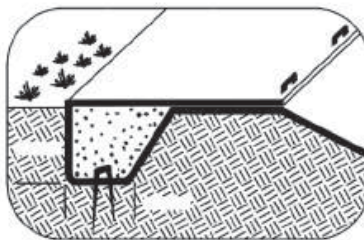

Fig. 7 Terminal anchor trench for slopes and channels
- Step 5:** Anchor, fill and compact ends of blankets in 300mm deep and 150mm wide terminal anchor trench. Anchor with pins at 500mm spacing (see Fig. 7).
- Step 4:** Dig 300mm deep and 300mm wide terminal anchor trench at downstream end (Fig. 7).
- Step 14:** Anchor, fill and compact downstream end blankets in terminal anchor trench (Fig.7).